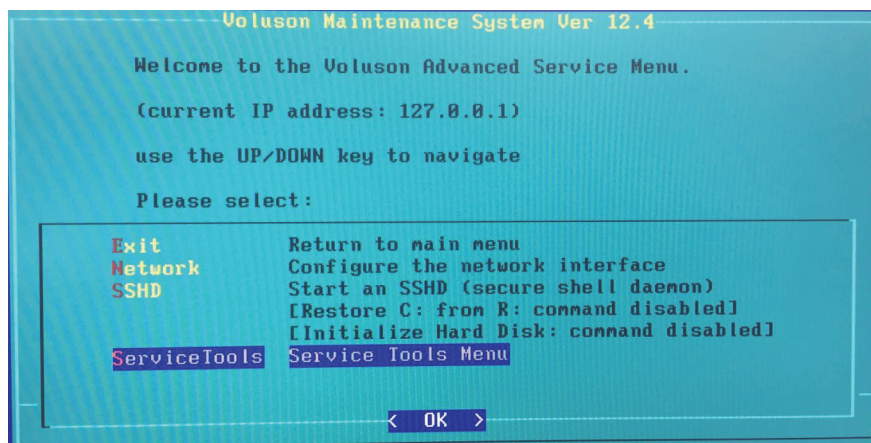

Figure 5-53 Advanced Functions Menu
- 3.) In the “Advanced Functions menu” (Figure 5-53 on page 5-79) select [Service Tools]. The “Service Tools Menu” with following functions appear.